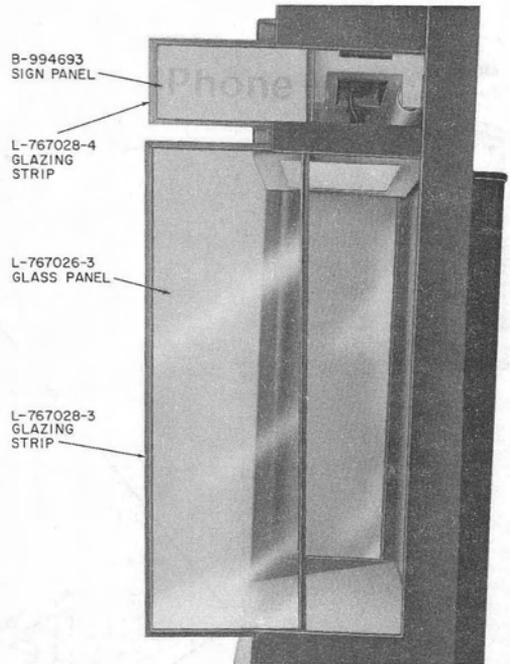

Fig. 38—Removal of Glass Panel and Sign Panel from List 35 Housing
- (2) Remove sign panels (Fig. 38).
- (3) From the kit, remove the filler panel and two rubber grommets.
- (4) Install the two grommets in the panel.
- (5) Transfer glazing strip from sign panel to filler panel. Ensure that sealed corners are not broken and are installed on top.
- (6) Install the filler panels with grommets